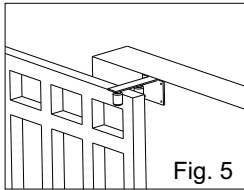
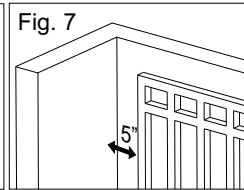

Fig. 5
Fig. 7
- that the distance between the end of the gate (in maximum opening position) and the eventual wall must be at least of 5 inches (fig. 7) which allow the sliding of the gate without difficulties (fig. 5 and 6).